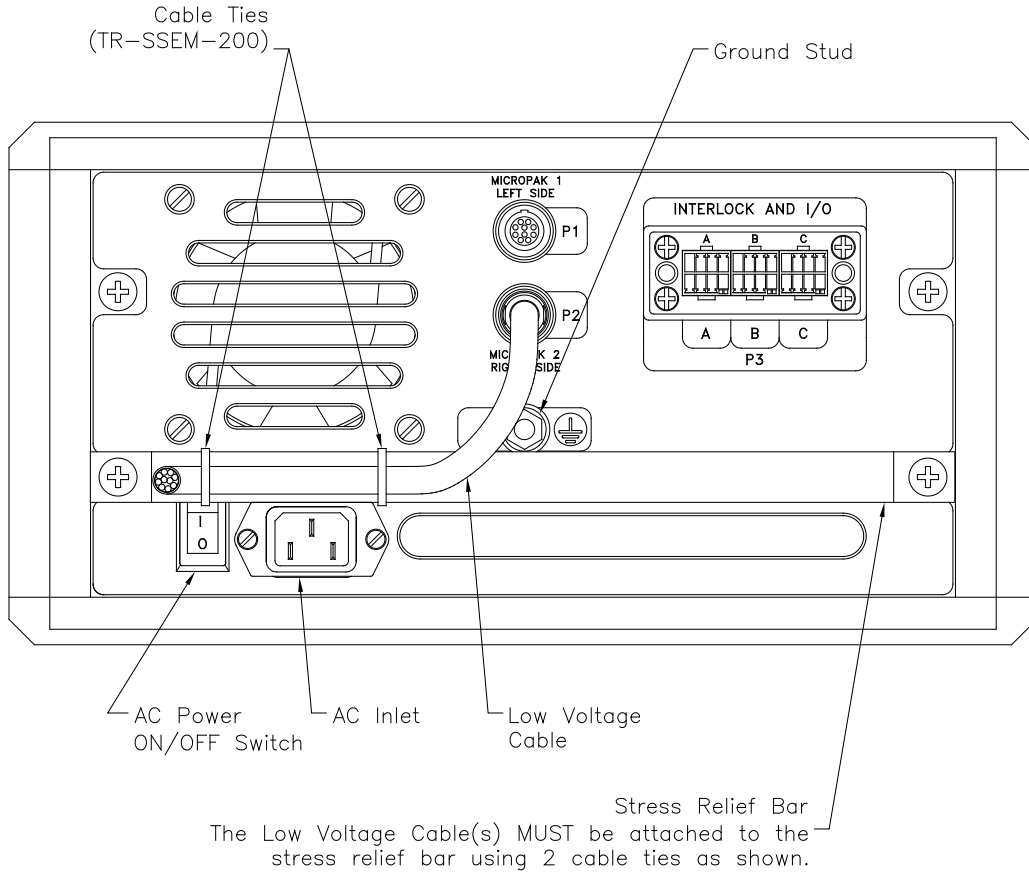
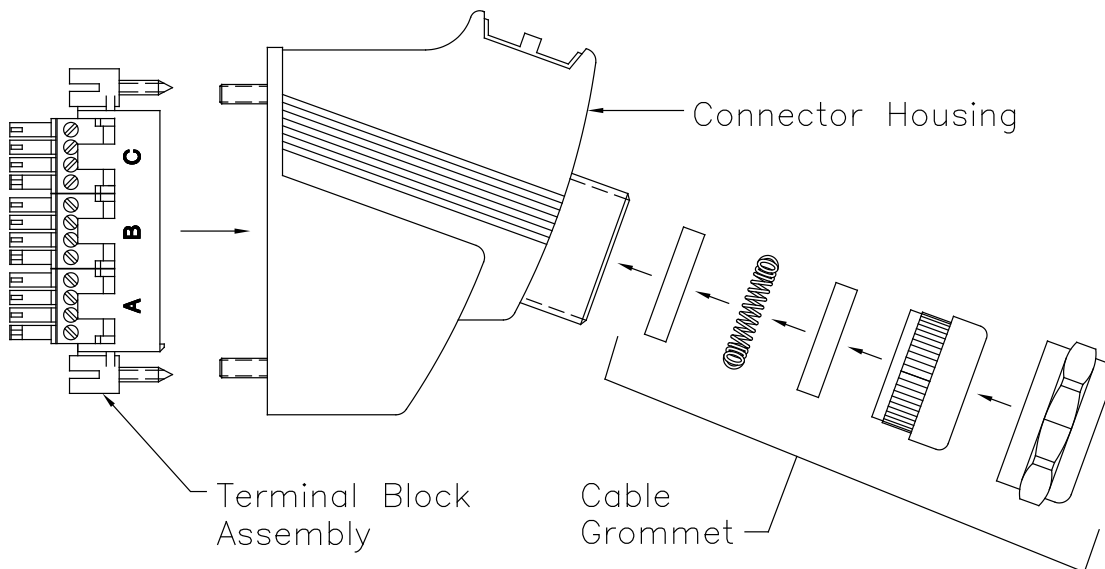

Figure 3: Rear View of Controller
Figure 4: Connector P3 Wiring
Plug the connector of the low voltage cable assembly into the appropriate receptacle on the rear of the controller (see Figure 3). P1 is the output for the leftmost MicroPak control unit, when viewed from the front, and P2 is the output for the rightmost MicroPak control unit, if installed. When making the connection, line the red dot on the connector with the red mark on the receptacle and push in until it clicks. To remove, simply pull back on the knurled portion of the connector. Attach the low voltage cable(s) to the stress relief bar using TR-SSEM-200 cable ties (supplied) as shown in Figure 3.
Interlock and I/O connections are made to connector P3 on the rear of the controller. P3 consists of three, 8-position terminal blocks A, B, and C (see Figure 3). To wire to these terminal blocks, perform the following (see Figure 4):
3. Feed the I/O / Interlock cable(s) through the cable grommet attached to the connector housing and pull out the other side. It may be necessary to remove the cable grommet to fit the cable(s) through. If so, slide the grommet connections onto the cable(s) in the order shown in Figure 4 before pulling the cable through the connector housing.
A special cable grommet fitting has been provided for I/O connector P3 of the controller (see Figure 4). When the nut is tightened, the spring in the grommet compresses and makes 360° contact with the braid of the cable. This electrically connects the cable braid to ground via the connector housing and controller back panel.